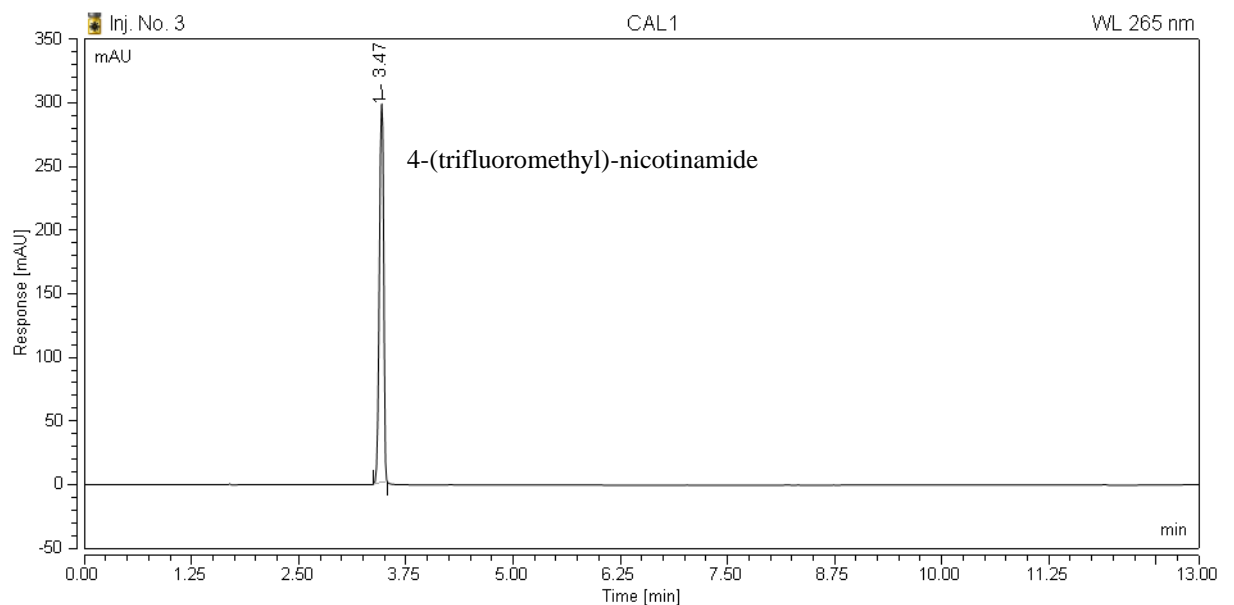

Fig 1 Typical chromatogram of 4-(trifluoromethyl)-nicotinamide TC
2.1 HPLC. Use the HPLC method below. The relative retention time of 4-(trifluoromethyl)-nicotinamide in the sample solution should not deviate by more than 2% from that of the calibration solution. The UV spectrum measured from this peak should match that obtained from the calibration substance. (Fig 1)